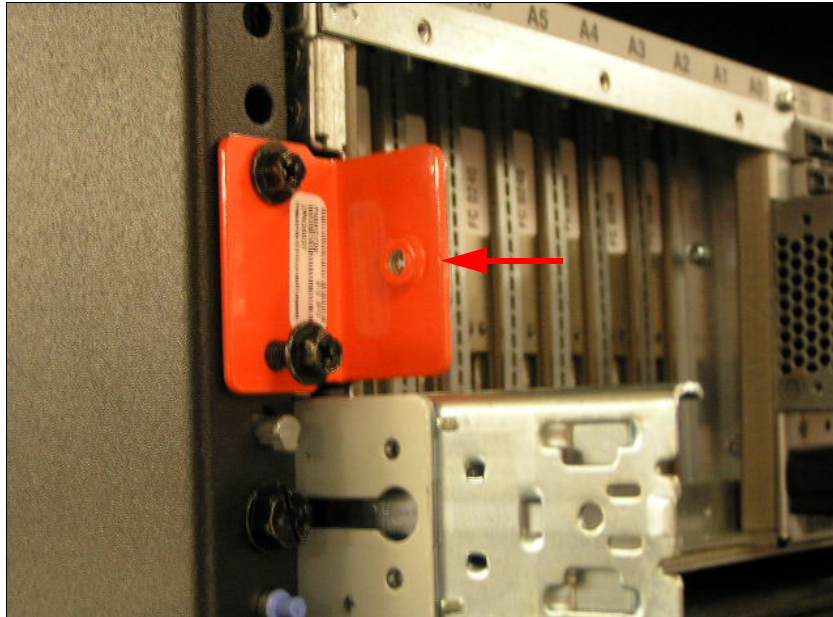

Figure 1-2 I/O drawer shipping bracket placement
5. Remove the two orange shipping brackets on the back of each I/O drawer. There is one bracket on each side. See Figure 1-2 on page 4.